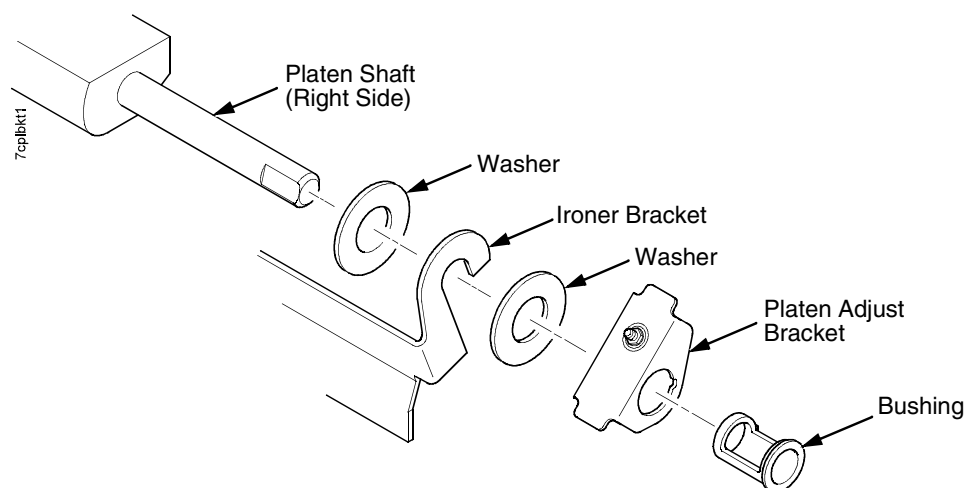

Figure 20. This figure shows how to install the platen adjust bracket on the right side platen shaft.
2. Install two washers on the longer (right) platen shaft. (See Figure 20.)
8. Insert the shorter platen shaft through the left adjust bracket and through the opening in the left side plate. Rotate the longer shaft into the opening in the right side plate and position the adjustment brackets as shown in Figure 20.
14. Install the paper ironer bracket. (See Figure 20, page 369):
For the right side of the platen, a washer goes on both sides of the paper ironer hook and the hook goes to the left of the right platen adjustment bracket. (See Figure 20, page 369.)